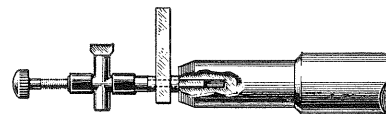

Figure 7
- (e) After properly locating the damping block, a soldering iron should be applied to the armature so that the block will melt slightly at its point of contact with the armature. A special tip, constructed as shown in Figure 7, will prove desirable for fusing the block in place. The iron should be applied long enough to slightly melt the block and cause a small bulge on both sides, but should not be applied long enough to cause any bubbling. The pickup should then be reassembled as described in the preceding section.